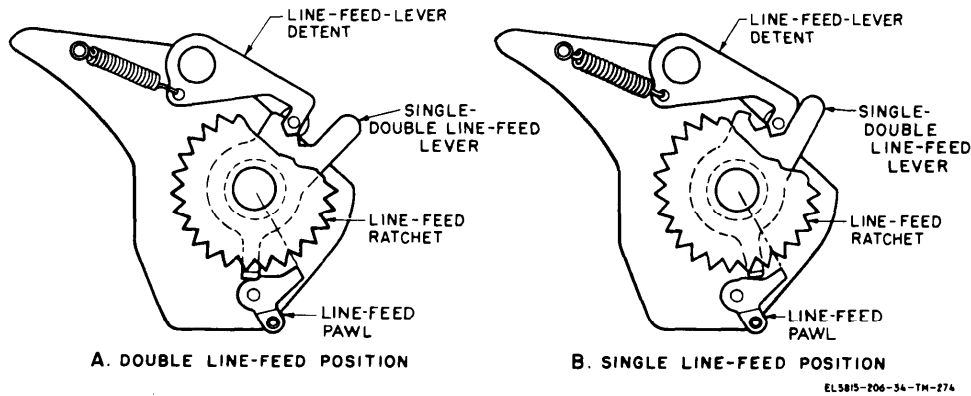

Figure 3-202. Positions of single-double line-feed lever.
(1) Selection of the line-feed combination should cause the line-feed mechanism to turn the platen one line space when the single-double line-feed lever is in the position shown in B, figure 3-202, and two lines spaces when it is in the position shown in A, figure 3-202.
(2) When the line-feed operation is completed, the line-feed pawl should be clear of the line-feed ratchet.